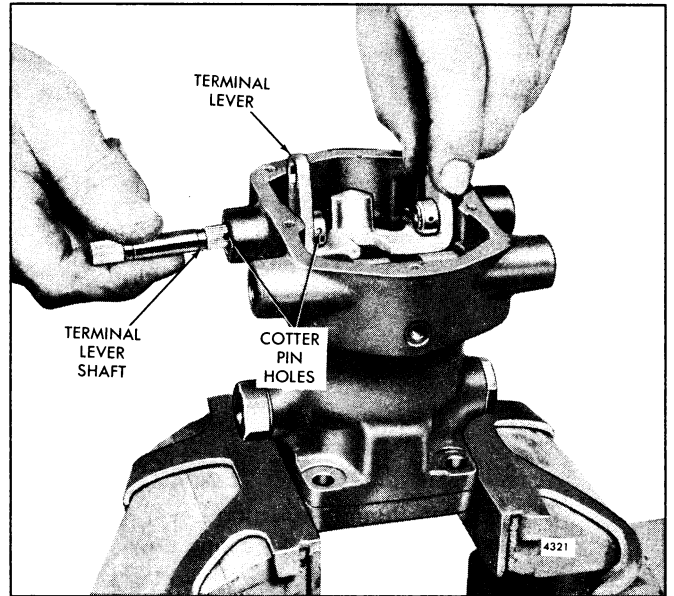

Fig. 16 - Installing Terminal Lever Shaft in Governor Housing and Terminal Lever
14. Install the terminal lever shafts and terminal lever. Align the holes in the lever shaft with the holes in the terminal lever and install the cotter pins - (Fig. 16).